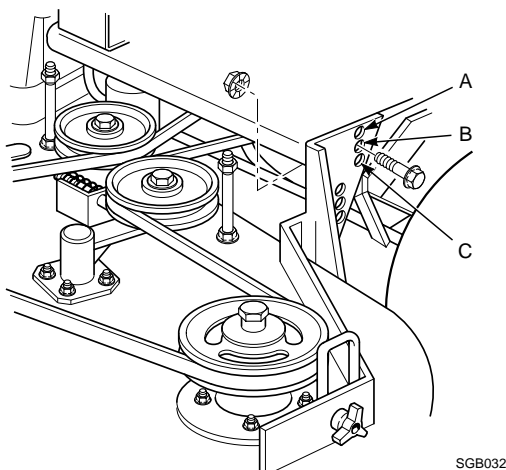

Figure 11. Cutter Deck Height Adjustment
There are three positions for mounting the cutter deck (See Figure 11). For cutting in the lowest position, mount the cutter deck in the top hole (A). For cutting in the highest position, mount the deck in the lowest hole (C). Setting the cutter deck height will be determined by the type of cutting conditions.